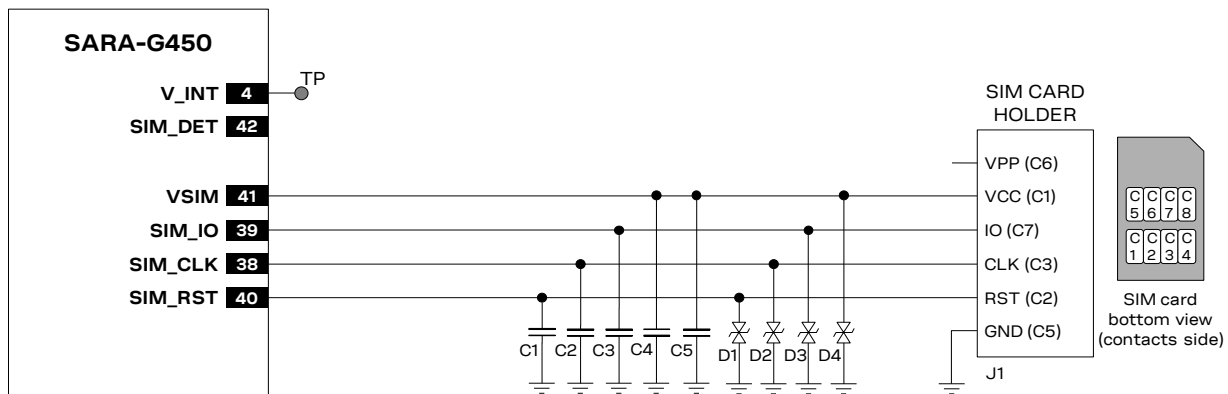
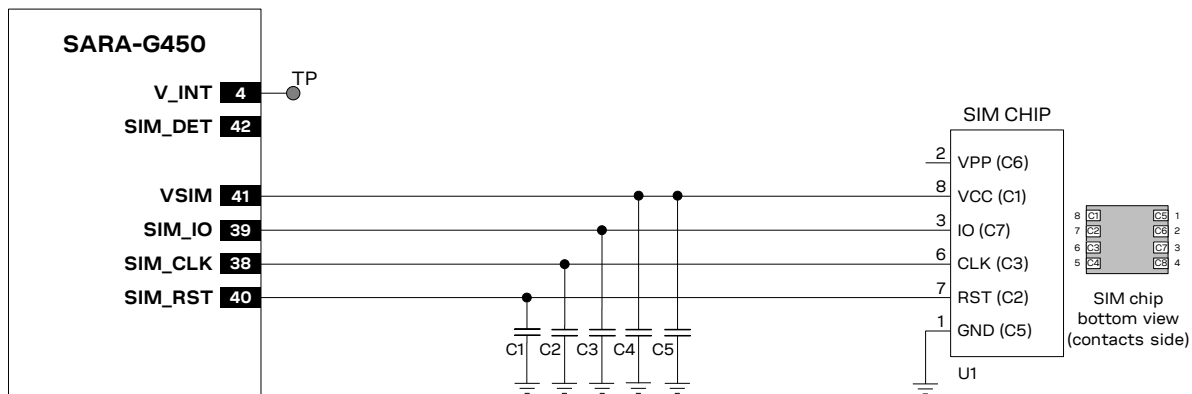
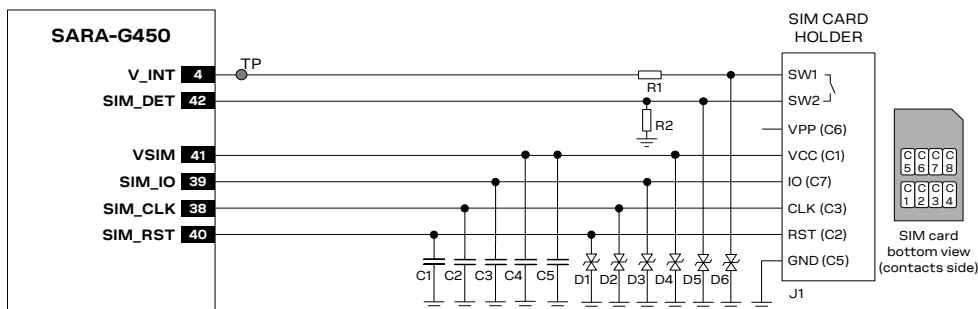
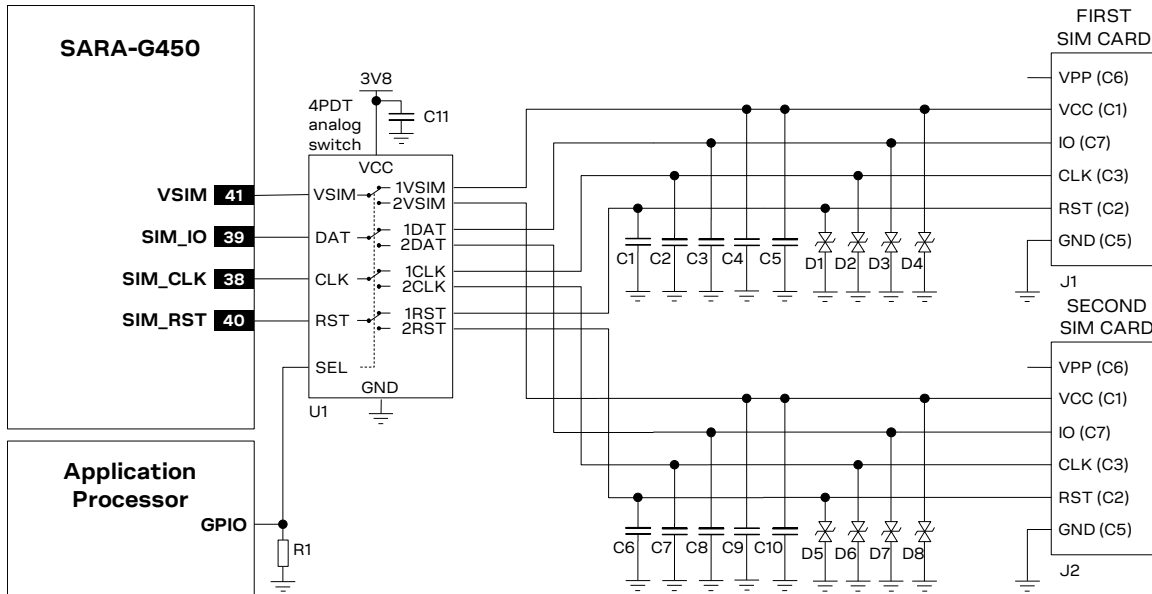

Figure 43: Application circuit for the connection to a single removable SIM card, with SIM detection not implemented
Figure 44: Application circuit for the connection to a single solderable SIM chip, with SIM detection not implemented
Figure 45: Application circuit for the connection to a single removable SIM card, with SIM detection implemented
Figure 46: Application circuit for the connection to two removable SIM cards, with SIM detection not implemented
An application circuit for the connection to a single removable SIM card placed in a SIM card holder is described in Figure 43, where the optional SIM detection feature is not implemented (see the circuit described in Figure 45 if the SIM detection feature is required).
An application circuit for the connection to a single solderable SIM chip (M2M UICC Form Factor) is described in Figure 44, where the optional SIM detection feature is not implemented (see the circuit described in Figure 45 if the SIM detection feature is required).
An application circuit for the connection to a single removable SIM card placed in a SIM card holder is described in Figure 45, where the optional SIM card detection feature is implemented.
- Connect one pin of the normally-open mechanical switch integrated in the SIM connector (as the SW2 pin in Figure 45) to the **SIM_DET** input pin, providing a weak pull-down resistor (e.g. 470 k Ω , as R2 in Figure 45).
- Connect the other pin of the normally-open mechanical switch integrated in the SIM connector (SW1 pin in Figure 45) to **V_INT** 1.8 V / 3 V supply output by means of a strong pull-up resistor (e.g. 1 k Ω , as R1 in Figure 45).
Two SIM card / chip can be connected to the modules' SIM interface as illustrated in the circuit of Figure 46.
SARA-G450 modules do not support the usage of two SIMs at the same time, but two SIMs can be populated on the application board providing an appropriate switch to connect only the first SIM or only the second SIM per time to the SIM interface of the SARA-G450 modules as described in the Figure 46.
In the application circuit example represented in Figure 46, the application processor will drive the SIM switch using its own GPIO to properly select the SIM that is used by the module.
The dual SIM connection circuit described in Figure 46 can be implemented for SIM chips as well, providing a suitable connection between the SIM switch and SIM chip as described in Figure 44.
If it is required to switch between more than two SIMs, a circuit similar to the one described in the Figure 46 can be implemented: for example, in the event of a four-SIM circuit, using an appropriate 4-pole 4-throw switch (or, alternatively, four 1-pole 4-throw switches) instead of the suggested 4-pole 2-throw switch.